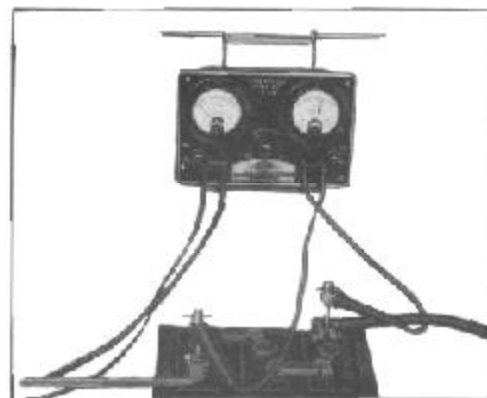

Figure 12--Checking Battery Capacity
2. Connect positive voltmeter lead to positive battery terminal - negative voltmeter lead to negative battery terminal, see Figure 12.